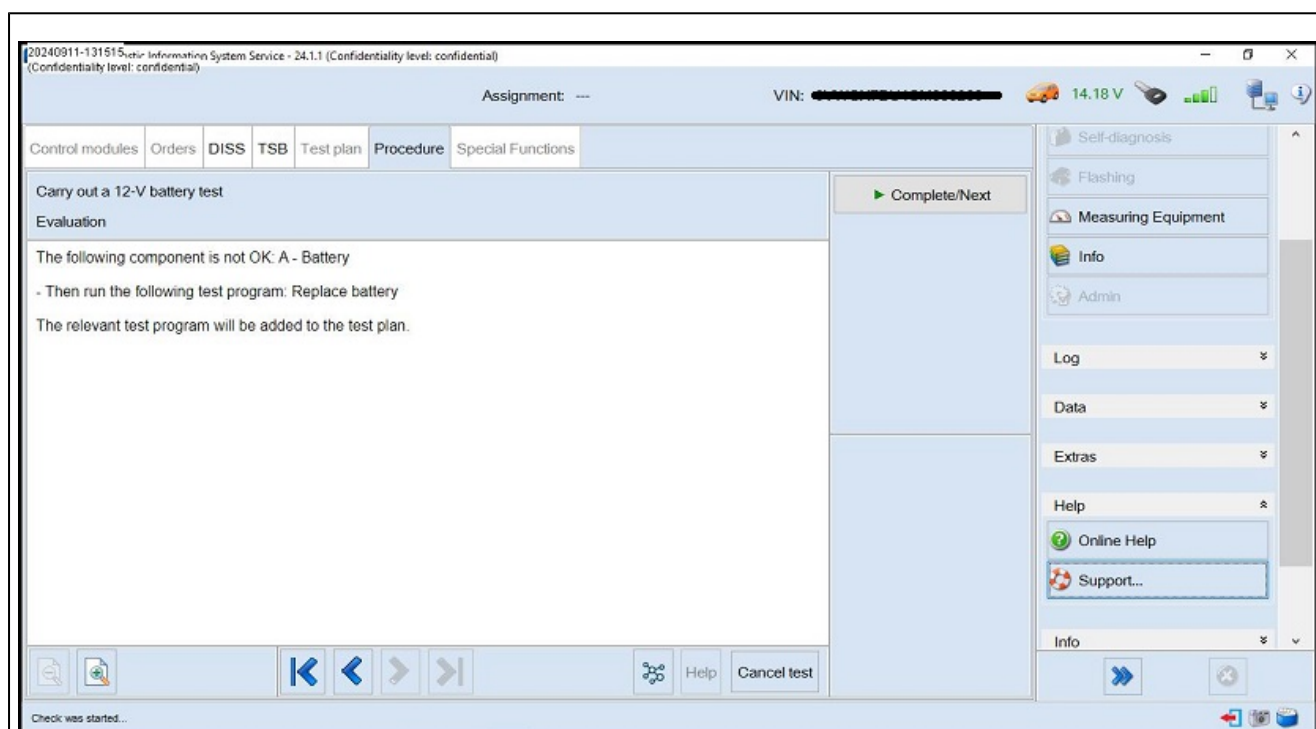

Figure 5.
5. Figure 5 displays the battery test results. Once you select Complete/Next the test plan will end.